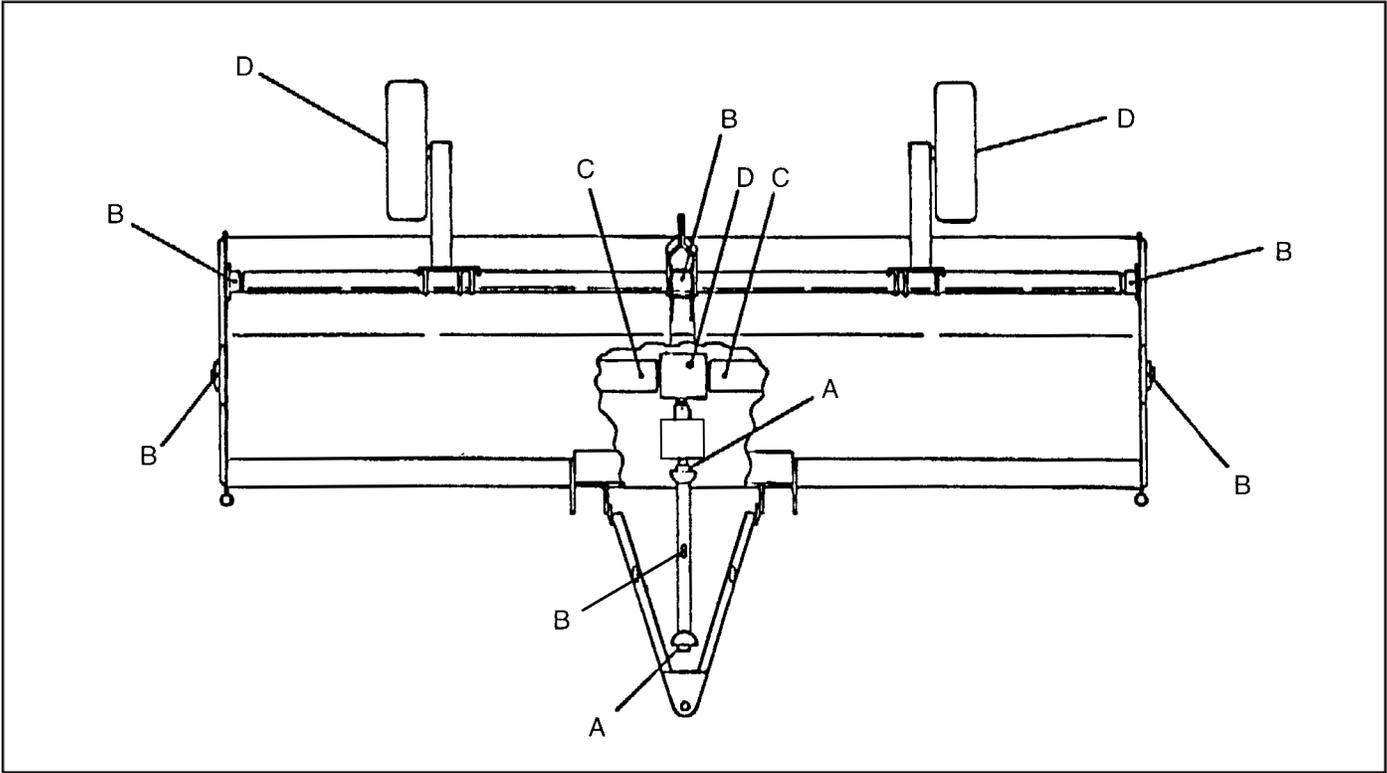

Figure 23. Lubrication Points
**NOTE:** Recommendations are based on normal operating conditions. Severe or unusual conditions may require more frequent lubrication or oil changes. Refer to Figure 23.
1. Lubricate PTO driveline telescoping section (one location, Position B, Figure 23).